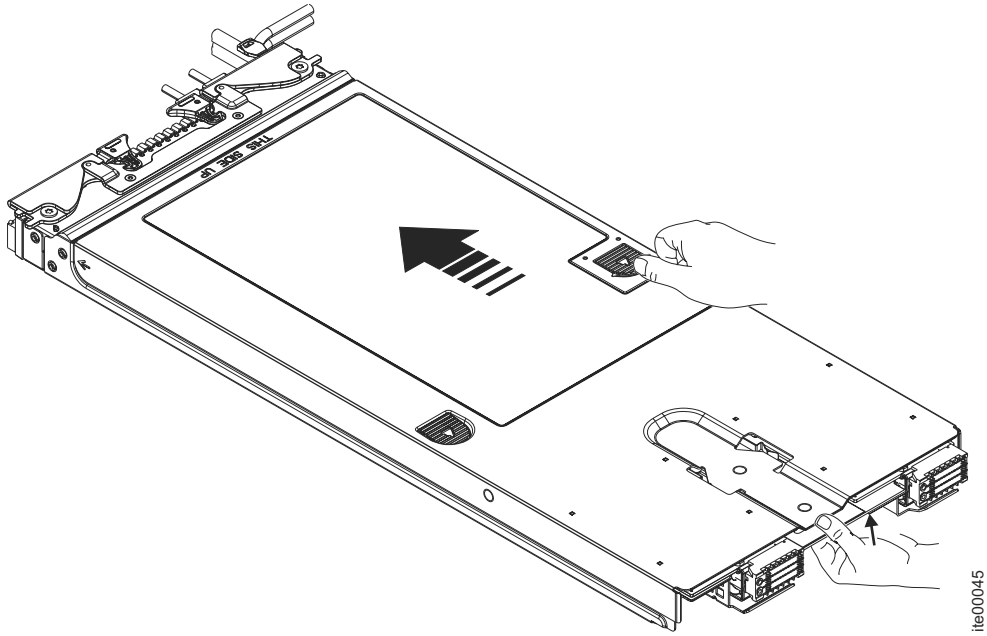

Figure 34. Cover installation
3. While lightly pushing downward at the rear of the enclosure cover, slide the cover forward to the closed position, until it clicks into place. See Figure 34 on page 54.